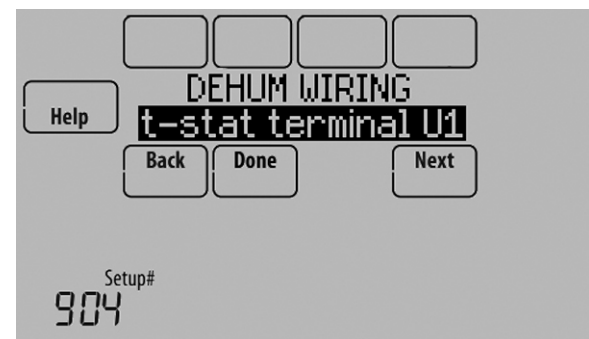

Fig. 197.
4. Select the terminals wired to the Whole House Dehumidifier. See Fig. 197.